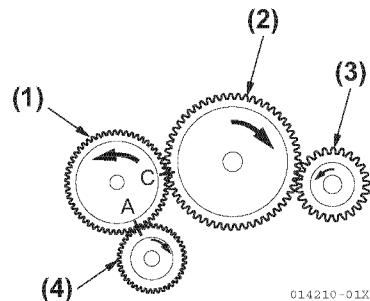

Figure 5-144
20. Measure the idle gear, camshaft gear and crankshaft gear backlash (**Figure 5-144**).